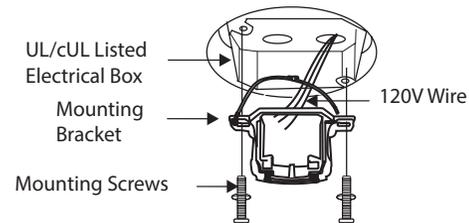

FIGURE 7
3. Pass the 120-volt supply wires through the center hole in the ceiling mounting bracket as shown in (Fig. 7).